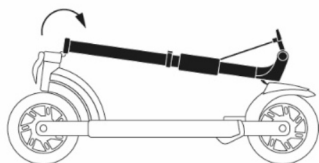

Figure 48 - Steering column folding
4. Press the safety lever and fold the steering column towards the rear wheel (**See Figure 48 - Steering column folding**);